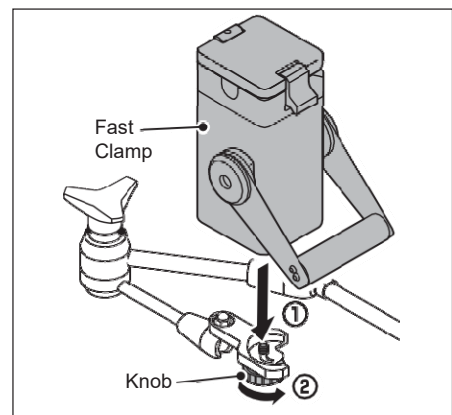

Figure 1-27
3. **Attach the Fast Clamp to the Fast Clamp Arm (Figure 1-27 a), and secure it with the knob. (Figure 1-27 b)**